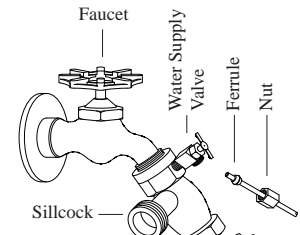

Fig. 5
- **Connect water supply line.** Install a sillcock and water valve on a faucet as shown by figure 5. Run 1/4 inch tubing from sillcock valve to cooler. Place the nut and ferrule on the tubing and tighten the nut until water tight.